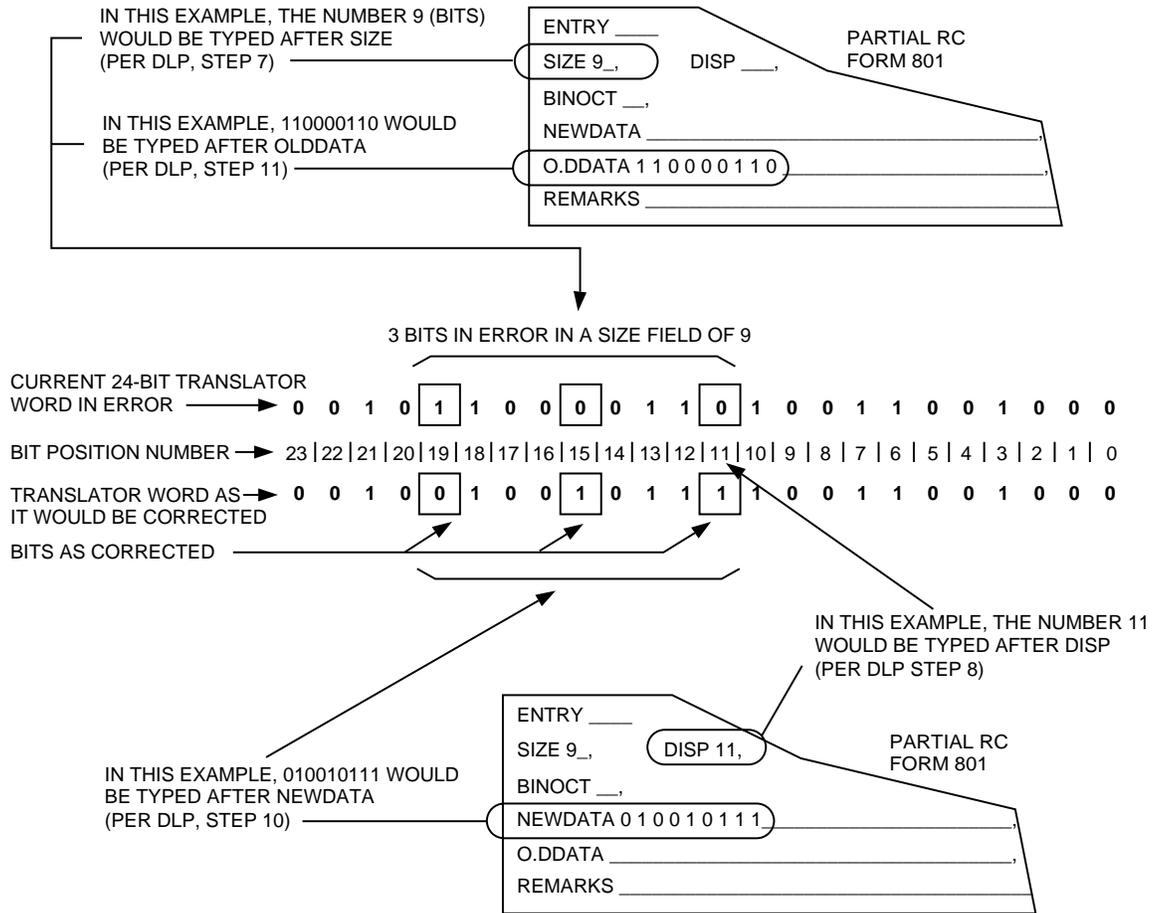

Figure 1. Functional Word Change Example
***Caution:** Calling up a Recent Change (RC) form will cause all data on the screen to be cleared.*
7. Determine the number of consecutive bits which span all bits requiring change in this Unit Type translator word (see example in Figure 1) and at the **SIZE** field, then enter this number.
8. Determine the bit position number (range 0 to 23) of the right-most bit of the consecutive bits determined in Step 7 (see example in Figure 1) and at the **DISP** field, enter this bit position number.
10. Determine the binary bits to be inserted into the Unit Type translator word to correct that word (see example in Figure 1). At the **NEWDATA** field, enter these binary bits.
11. At the **OLDDATA** field, enter the current binary of only that portion of the Unit Type translator word requiring change (see example in Figure 1).